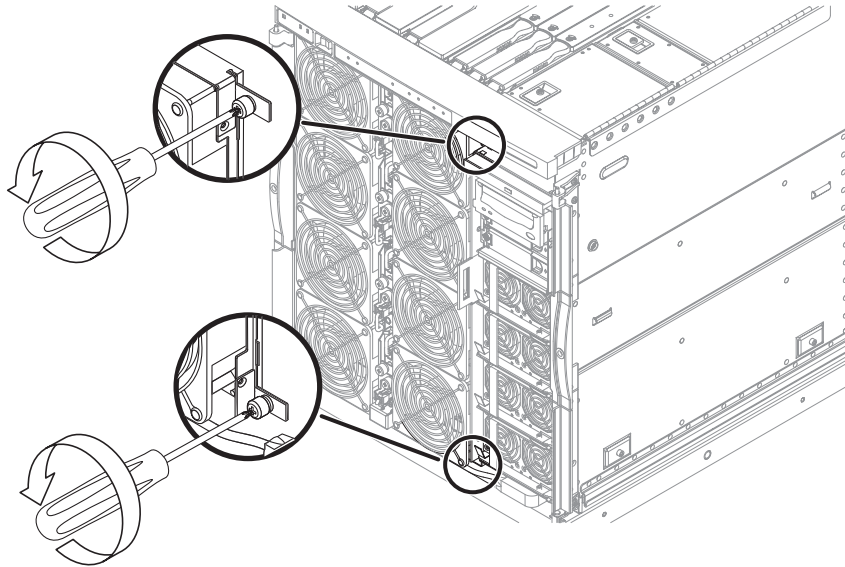

FIGURE 6-6 Loosening the Fan Tray Captive Screws
7. Loosen the two captive screws to the fan tray in the order below (FIGURE 6-6).
5. Tighten the two captive screws, one at the top and one at the bottom right side (FIGURE 6-6).